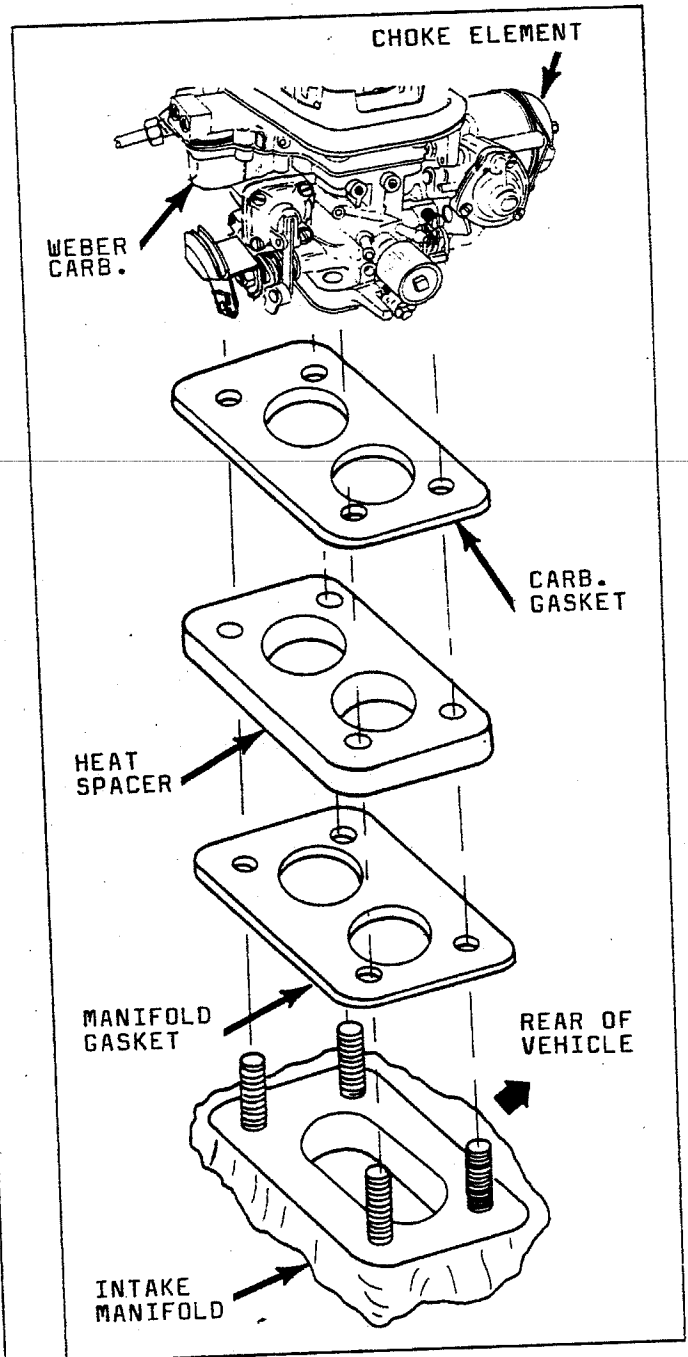

Figure 2
See figures 2 and 3.
16. Coat manifold gasket lightly with gasket sealer and install on the intake manifold. See figure 2.
19. Install the Weber carburetor above the carburetor base gasket (Fig. 2).